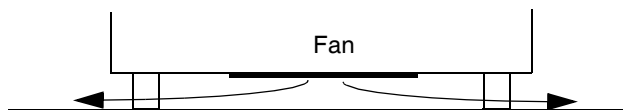

Figure 2-5 Venting the Detector
4. Ensure the detector is placed on a flat, smooth, and level surface. Do not block the fan located at the bottom of the detector (Figure 2-5). Blocking the the fan impairs the cooling capability of the power supply.
Note: Set a waste tray under the detector to collect any leaks from the detector oven. Do not block the fan located at the bottom of the detector (Figure 2-5). Blocking the fan impairs the cooling capability of the power supply.